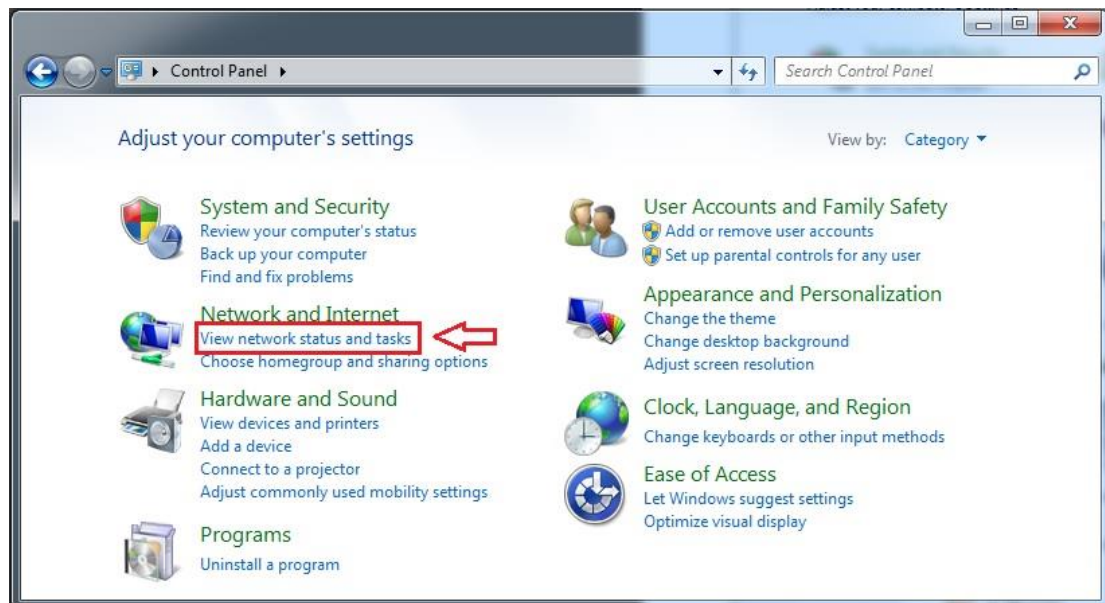

Figure 12: Windows Control Panel – Networks and sharing centre
- 1- In Windows click the Start menu, control panel and open the Network and Sharing centre. See Figure 12.